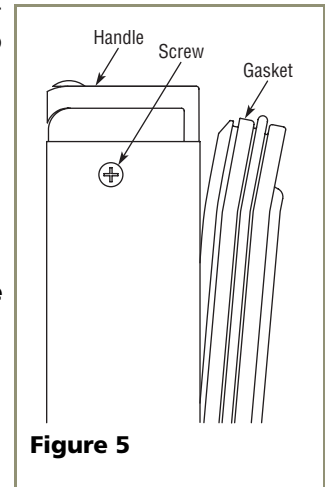

Figure 5
1. Open drawer. Pull drawer gasket out of groove (top edge of drawer only). Start in the middle and pull outward, moving toward the edge (see **Figure 5**). This may take some force.
2. Remove and save the two outside screws (see **Figure 5**).